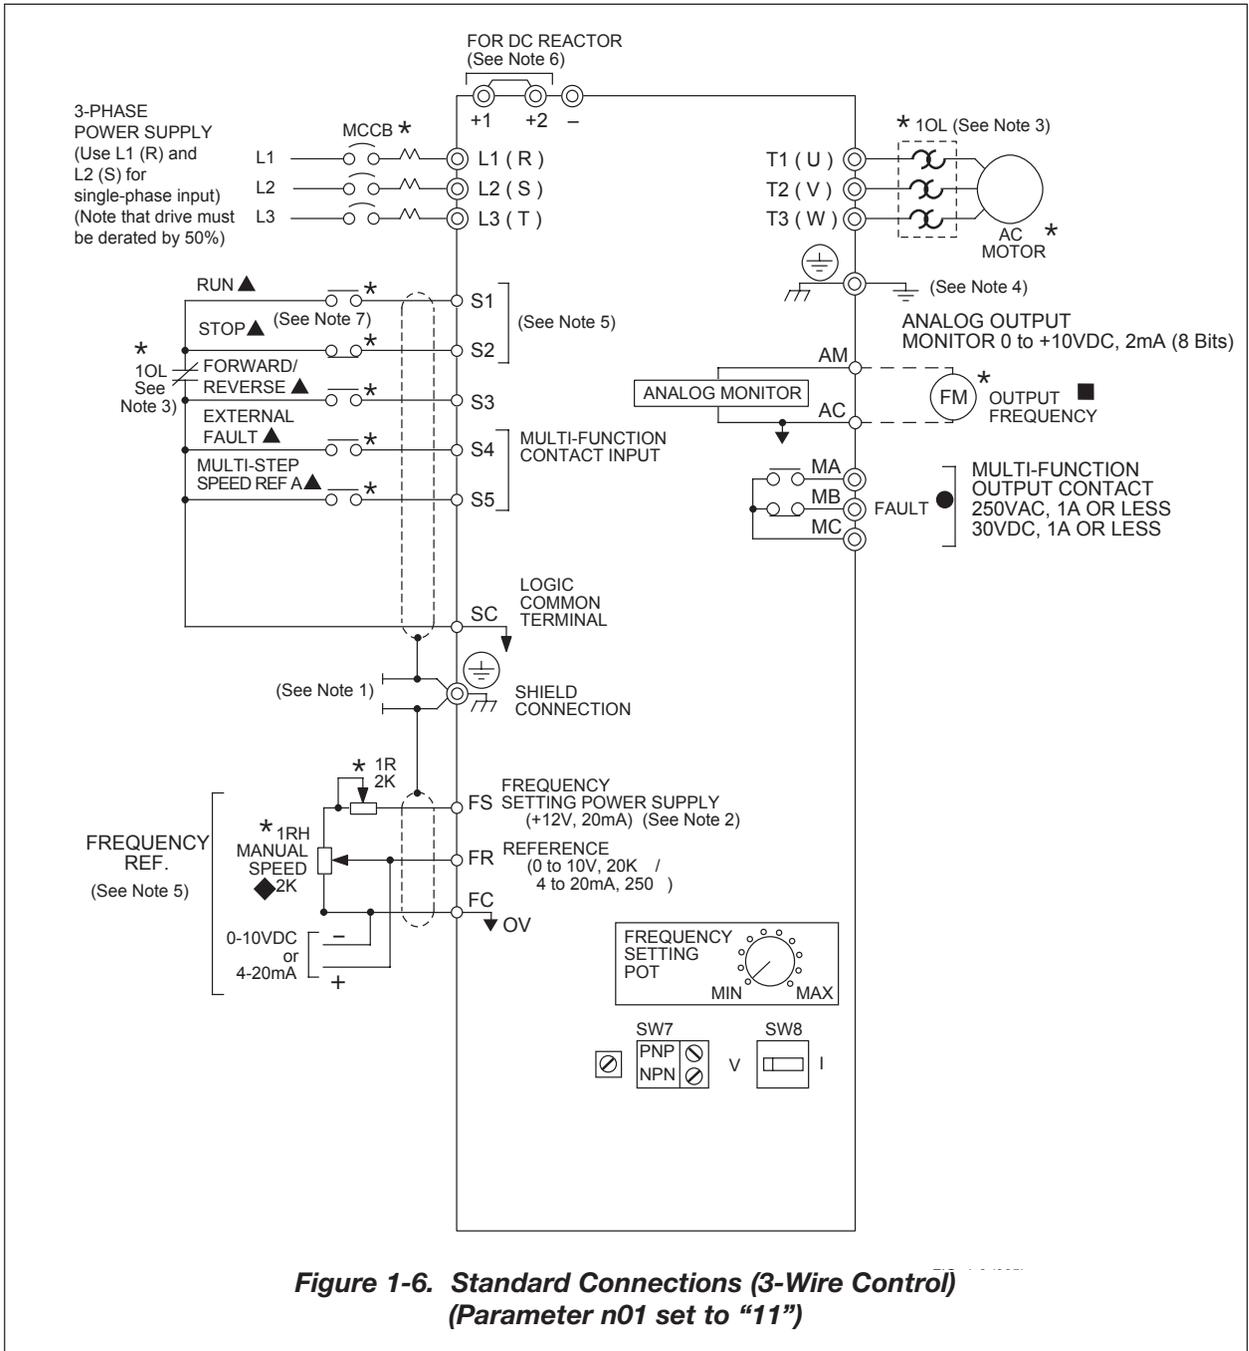

Figure 1-6. Standard Connections (3-Wire Control) (Parameter n01 set to "11")
1. These inputs have factory settings based on 2-wire reset. For 3-wire reset definitions, see Figure 1-6.
NOTES FOR FIGURE 1-6